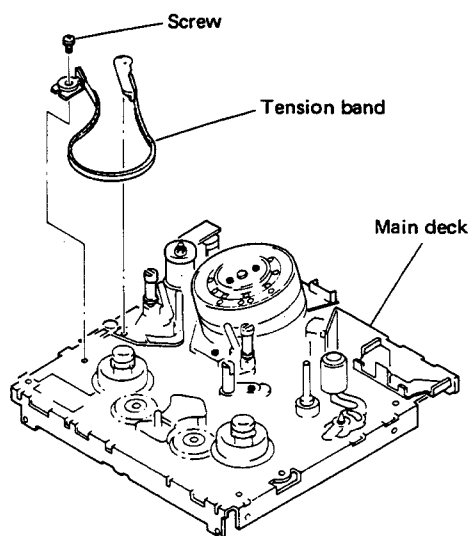

Fig. 2-16 Tension band replacement
1. Take out screw (Fig. 2-16) and separate the tension band from the tension pole.